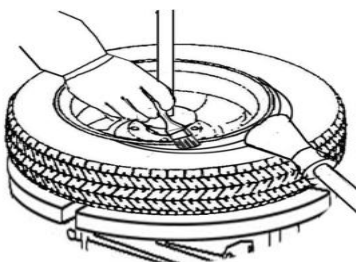

Fig.6
- Move the tire pressing roller(P) towards the rim and keep a 1 cm distance , press the control valve (R) and make the roller press the tire by 10-20mm
- Push the pedal (H) to rotate the tire by 1 to 2 circles until the upper bead separate from the rim.
- Apply lubricant over the tire when rotating. (Fig.6)